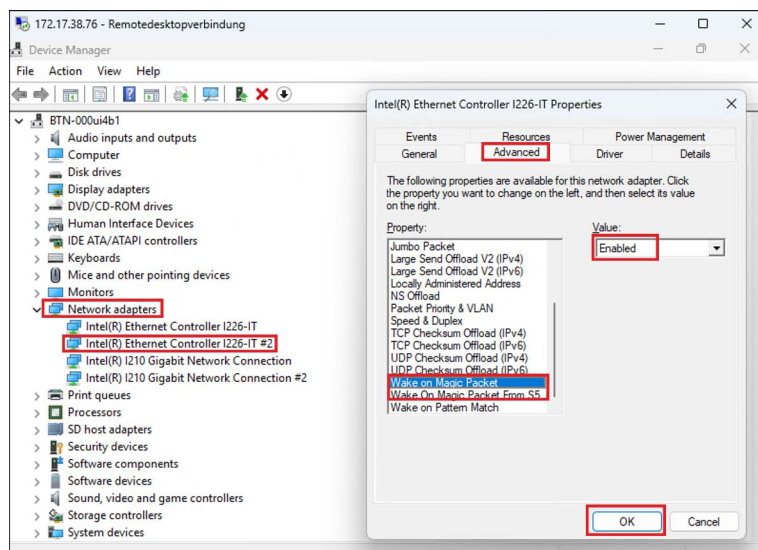

Fig. 17: Activate function
2. Lift the PC far enough so that the fastening screws slip into the keyholes (see fig. 17).